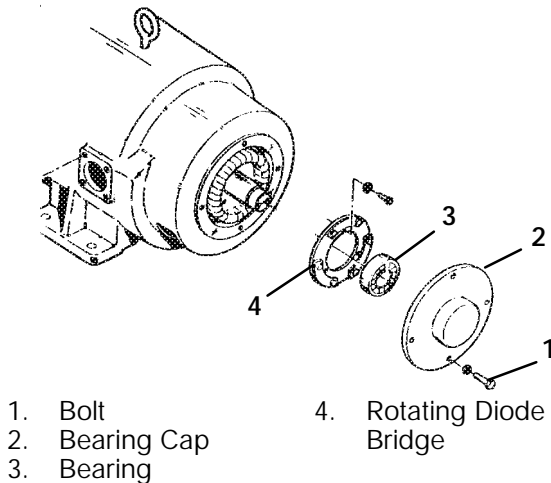
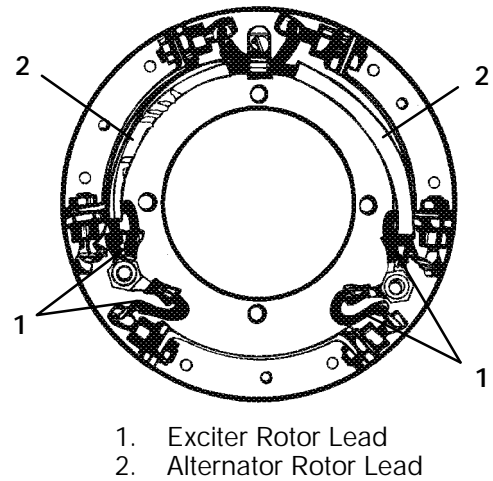

Figure 4-6. Rectifier Removal
Figure 4-7. A-C Generator (Rectifier Assembly)
1. Remove bearing cap. (See Figure 4-6)
The rotating diode bridge can be removed and replaced. Overcurrent, overvoltage, overspeed, or reverse currents can cause damage to the assembly or any of the component parts. The rotating diode bridge may be removed through the bearing cap on the rear of the generator. (See Figure 4-6 and Figure 4-7)
1. Remove the bearing cap by removing the four bolts shown in Figure 4-6 and both the bearing and rectifier assembly will be visible.
2. Use a bearing puller to remove the bearing from main shaft being careful to locate the puller on the inner race of the bearing to avoid bearing damage. Once the bearing is free, it is then necessary to disconnect the alternator and exciter rotor leads as shown in Figure 4-6.